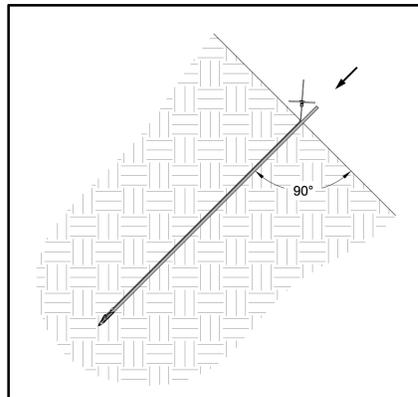

**Figure 15: Insert Drive Steel into Anchor**
2. Insert the tapered end of the drive steel into the hollow cavity of the anchor head. Position the anchor head/ drive steel tip above the ground at the drive location (Figure 15 and Figure 16).